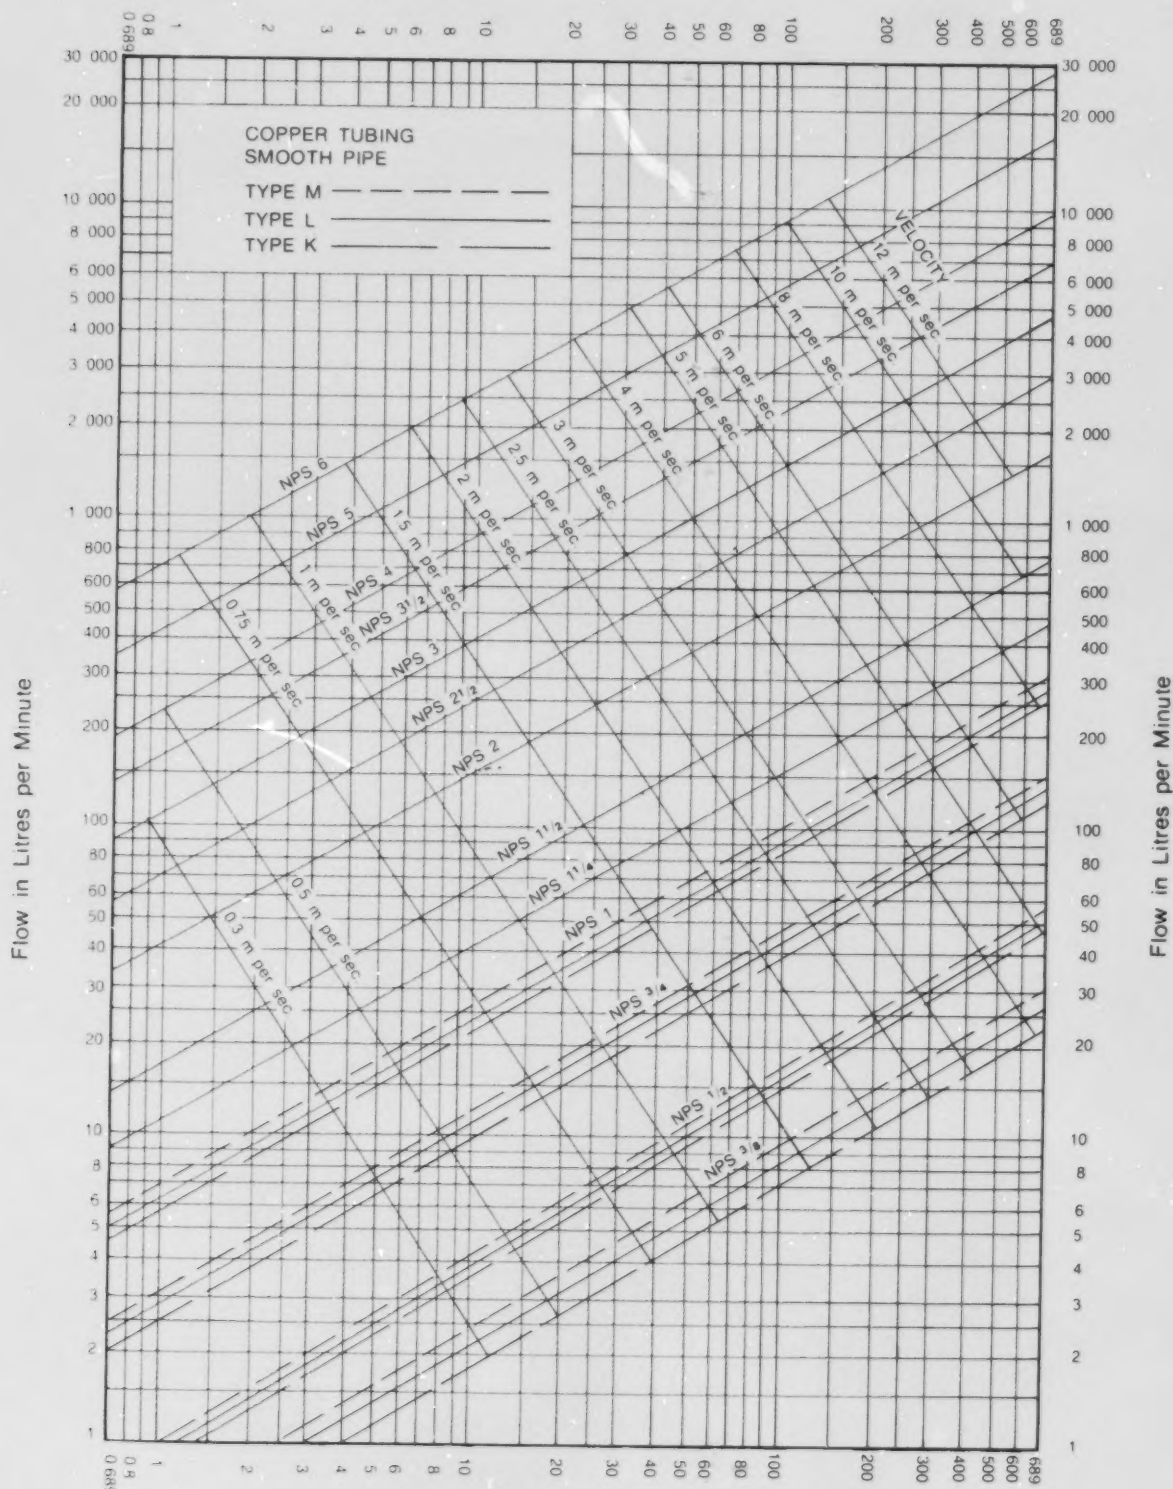
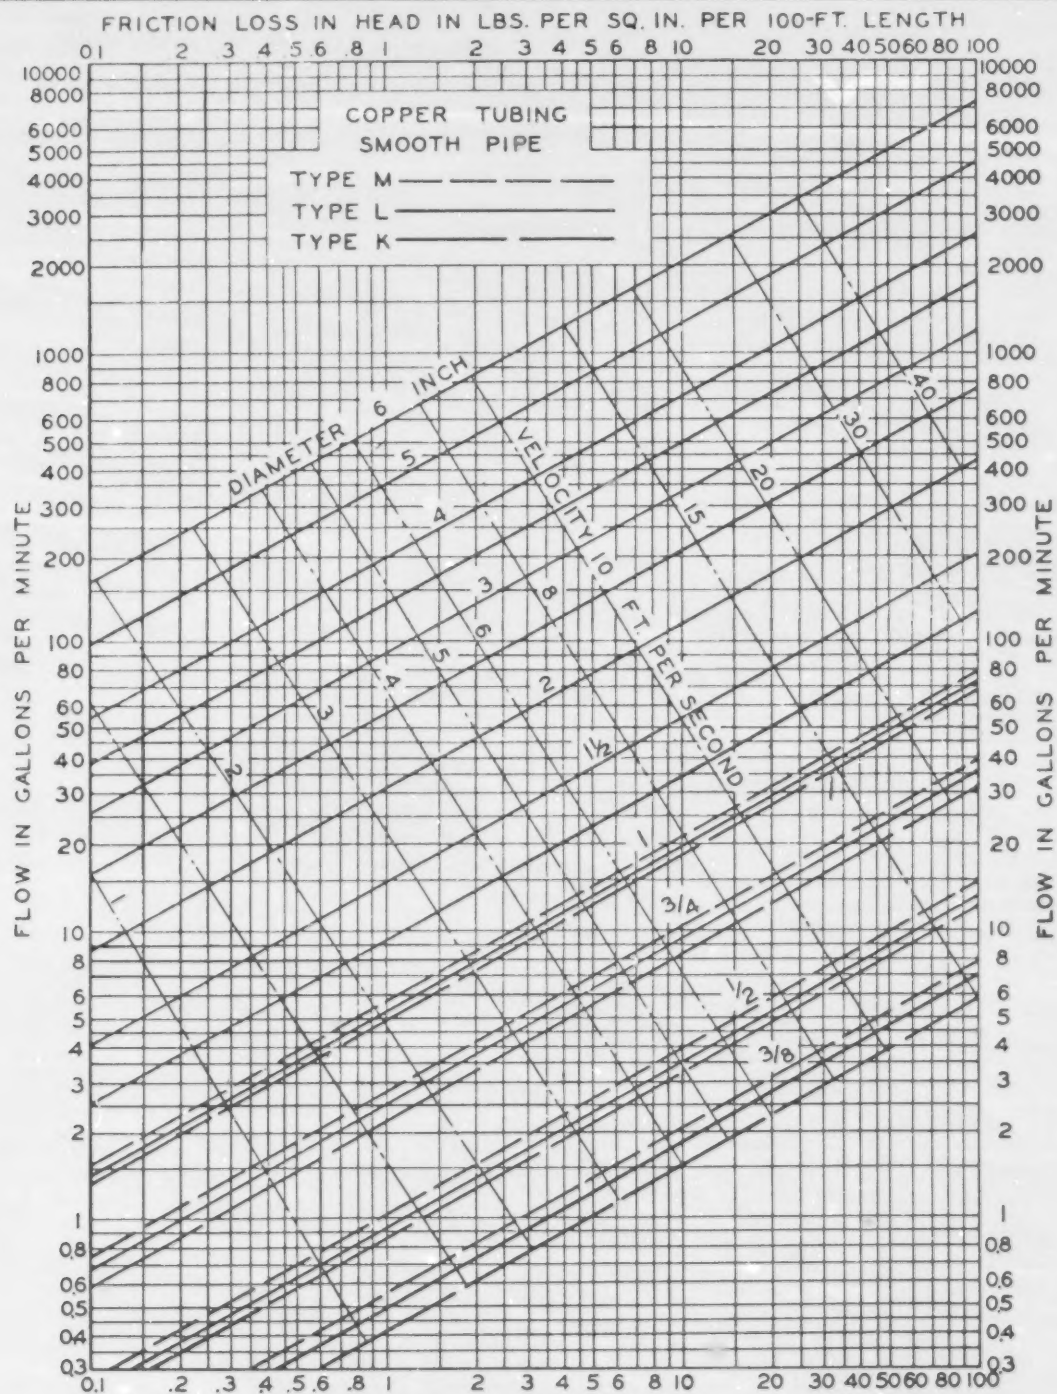

Figure 33-1. Friction Loss in Head in kPa per 30 m Length
Figure 33-4. Friction Loss in Head in Lbs. per Sq. In. per 100-Ft. Length
31. Figures 33-1 to 33-3 (in metric) and Figures 33-4 to 33-6 (in imperial) at the end of this section give the pipe friction losses corresponding to the above three classifications for various nominal diameters and velocities.